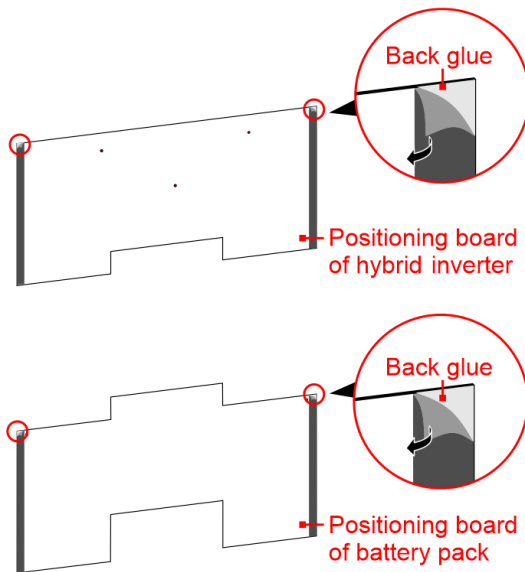
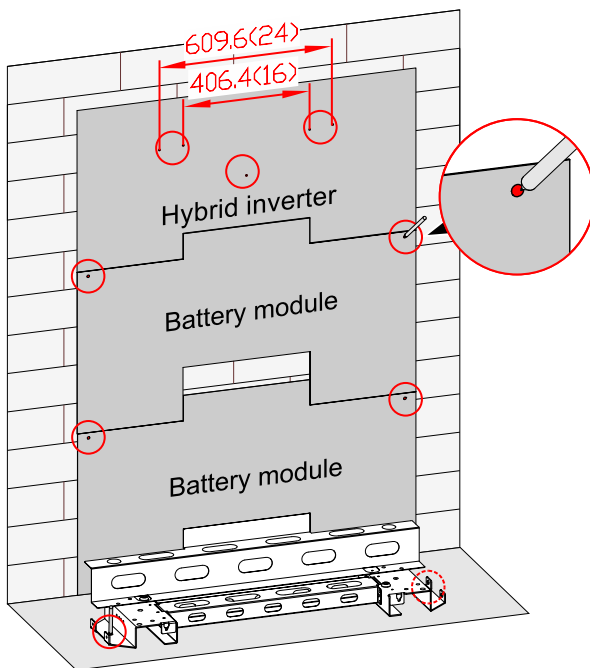

Figure3-10 Tear off the back glue
Figure3-11 Mark mounting holes
- Step 2 Tear off the back glue of positioning boards and mark the mounting holes of base module, battery modules and hybrid inverter, as shown in Figure3-10, Figure3-11.